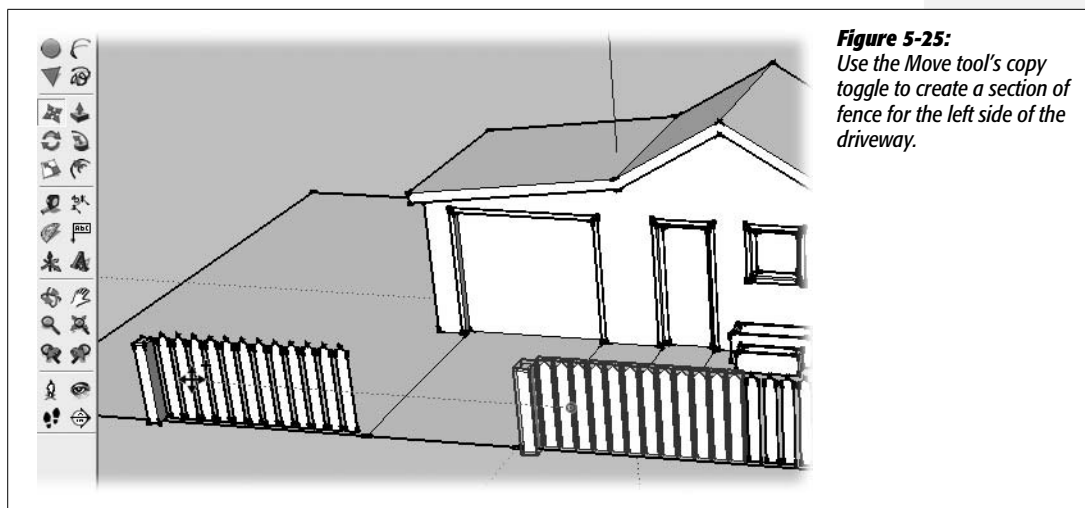

Figure 5-25:
3. Click the selected fence boards, and drag them across the driveway, as shown in Figure 5-25.